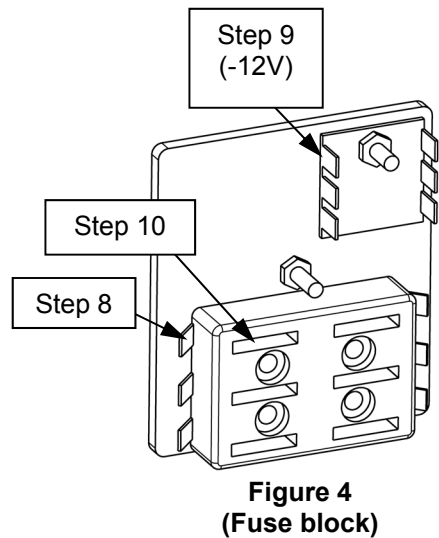

Figure 4
8. Connect red wire of wire harness to an empty fuse block terminal (**Figure 4**).
9. Connect black wire of wire harness to fuse block (-12VDC) grounding terminal (**Figure 4**).
10. Install 5 amp fuse into fuse block location selected in Step 8 (**Figure 4**).